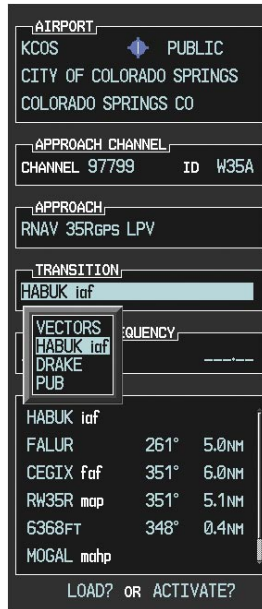

Figure 5-123 List of Available Transitions
e) Press the **ENT** Key. A list of available transitions for the selected approach is displayed as in Figure 5-123.